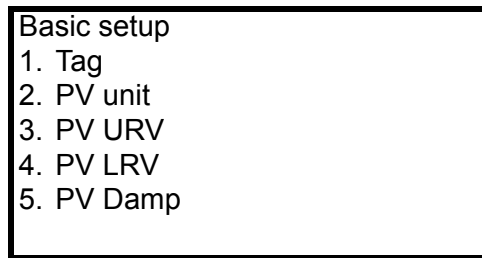

Figure 9 Basic setup menu
2. Select “3. Basic setup” from the menu and then the basic setup menu will be displayed. (Figure 9)
1. Select “5. PV Damp” from the basic setup menu. (Figure 9)